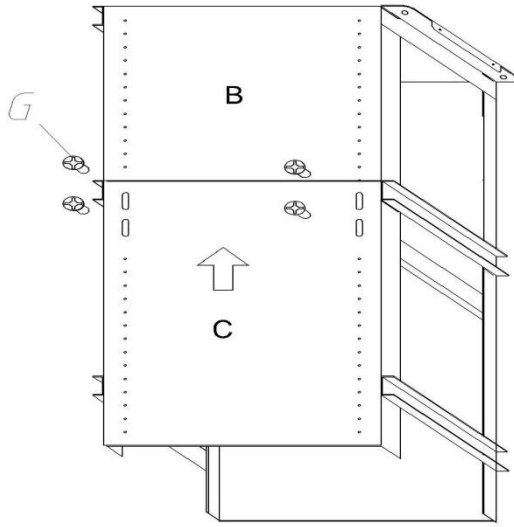
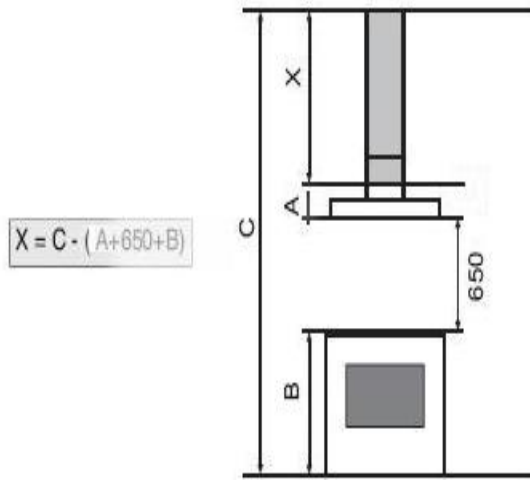

Fig. 4
Fig. 5
- Adjust the height (Fig.5) by referring to the amounts indicated in and block it using the 8 unit screws **G** that are supplied (Fig.4)